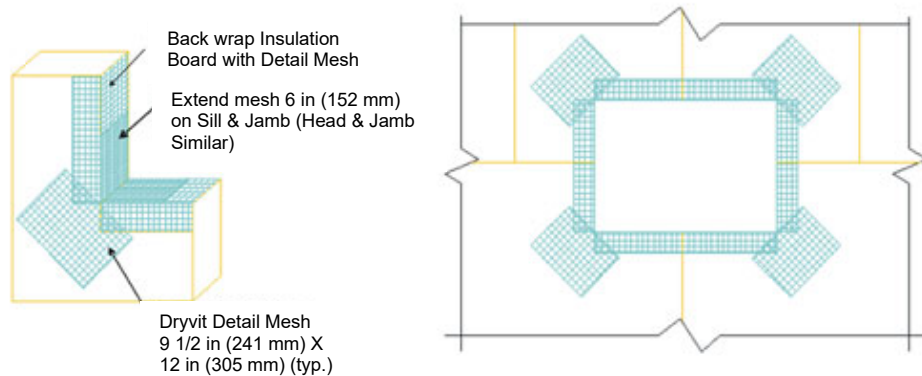

Figure 18
19. Corners of all openings such as windows, doors, mechanical equipment and all penetrations shall be reinforced with Detail Mesh placed diagonally to the opening as illustrated in Figure 18.